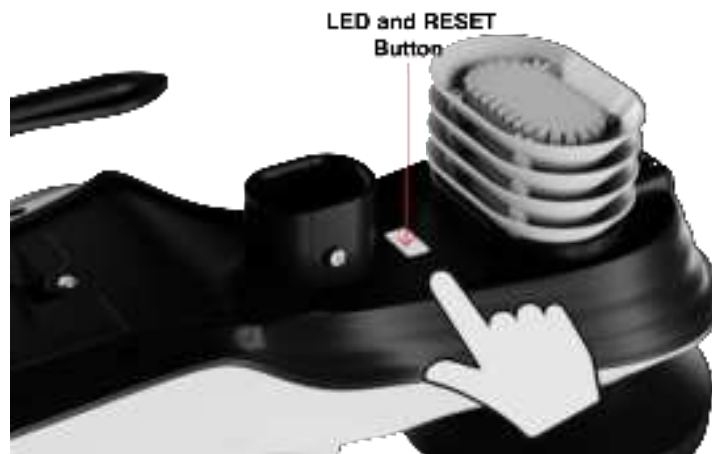

Figure 10
**NOTE:** If the sensor LED does not flash after inserting the batteries, press the reset button on the bottom of the sensor as shown in Figure 10.